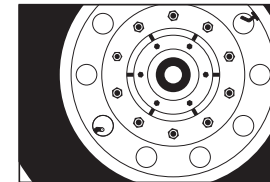

FIGURE 2
- They are located 180° apart. (See Figure 2)